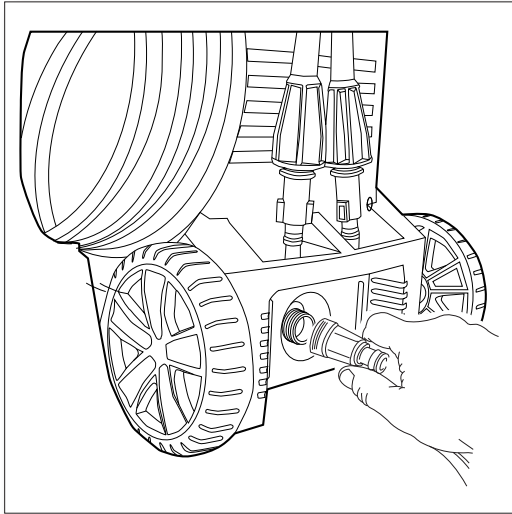
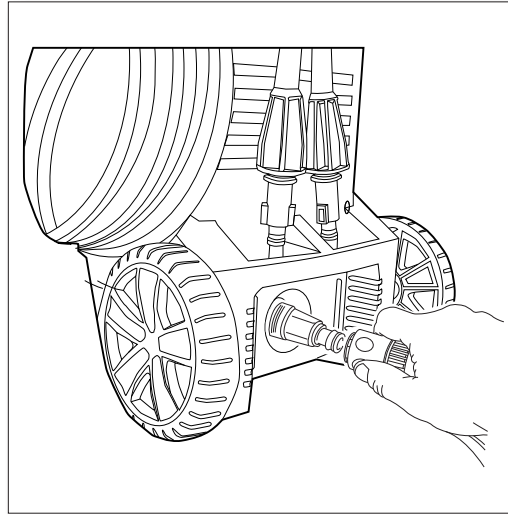

Fig. 13
Fig. 14
- Install the garden hose adapter (GHA) and quick connect filter. It is made up of two separate pieces. (1) A clear plastic adapter with a screen filter (about 3 inches long) (**Fig. 13**) and (2) a blue/black collar attachment (**Fig. 14**).